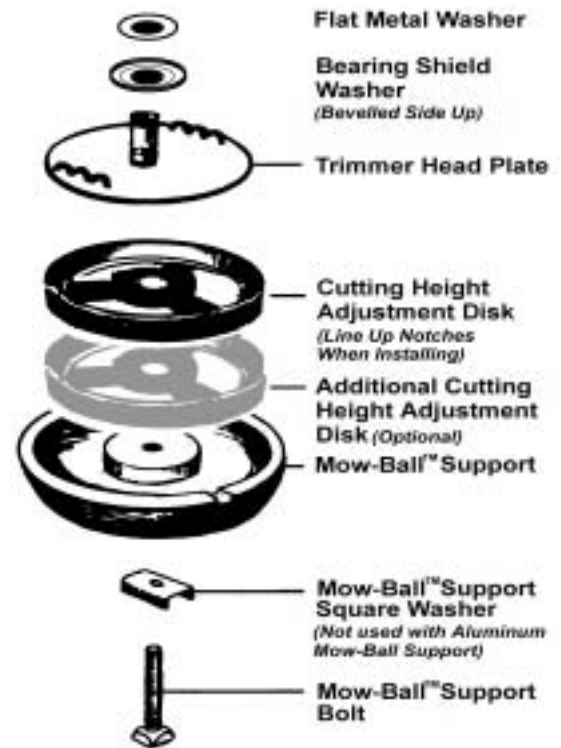

Figure 35
1. Reassemble the components in the order shown in Figure 35.